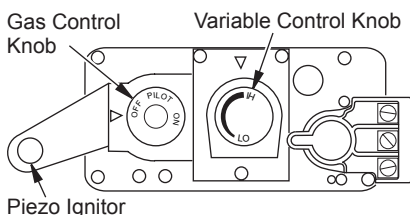

Figure 44 - Control Valve
- Turn gas control knob counterclockwise ↶ to PILOT (see Figure 44).
- Push in gas control knob all the way and hold. Immediately light pilot by repeatedly pressing piezo spark ignitor until a flame appears. Continue to hold for about one (1) minute after pilot is lit. Release gas control knob and it will pop back. Pilot should remain lit. If it goes out, repeat steps 5 through 8.